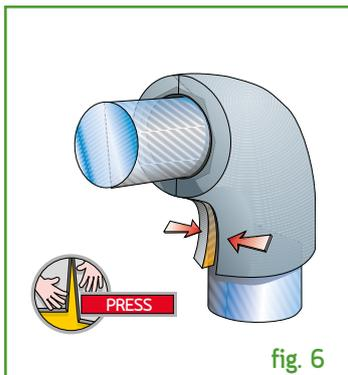

fig. 6
Remove all the protective film from the material (**fig. 6**)
Use scissors or a knife to cut the tape to the required length. Do not pull or tear the tape. Apply an even pressure over the entire length of the tape to make it adhere properly once laid. Also apply strips and tapes in the joints between consecutive parts of the insulating material (fig. 6)
- 6) Fit the insulating material obtained to the curved section of the pipe, joining the inside edges by pressing them together (fig 6)
Continue applying the insulation on the top part of the tank (cap). First, measure the line of the upper profile of the cap: this line coincides with the diameter of the circumference of the insulating material to be applied (**fig. 6 and fig. 7**)